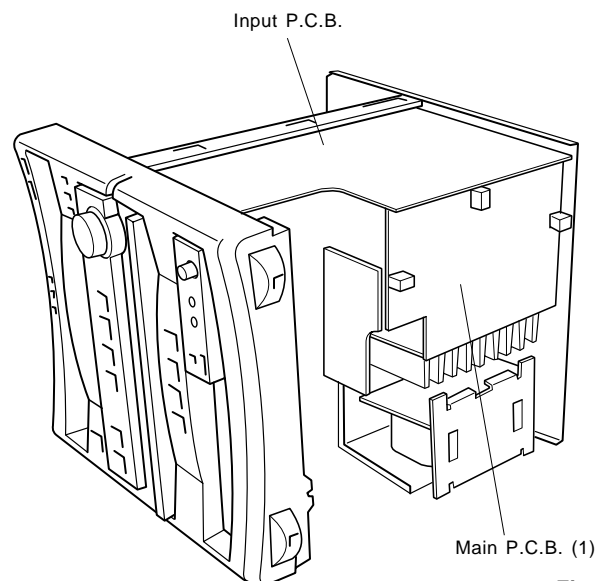

Fig. 9
- h. Place the main unit on its left side (viewed from the front) and remove the Bottom Cover in Fig. 9.
- i. Install the Panel unit to the main unit in Fig. 9.